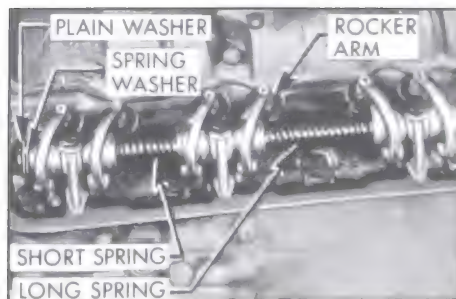

Figure 2-21—Rocker Arm and Shaft Assembly
3. Assemble springs, rocker arms and brackets on shaft as shown in Figure 2-21. Note that the long spring is at middle of shaft, the valve ends of all rocker arms slant toward middle of